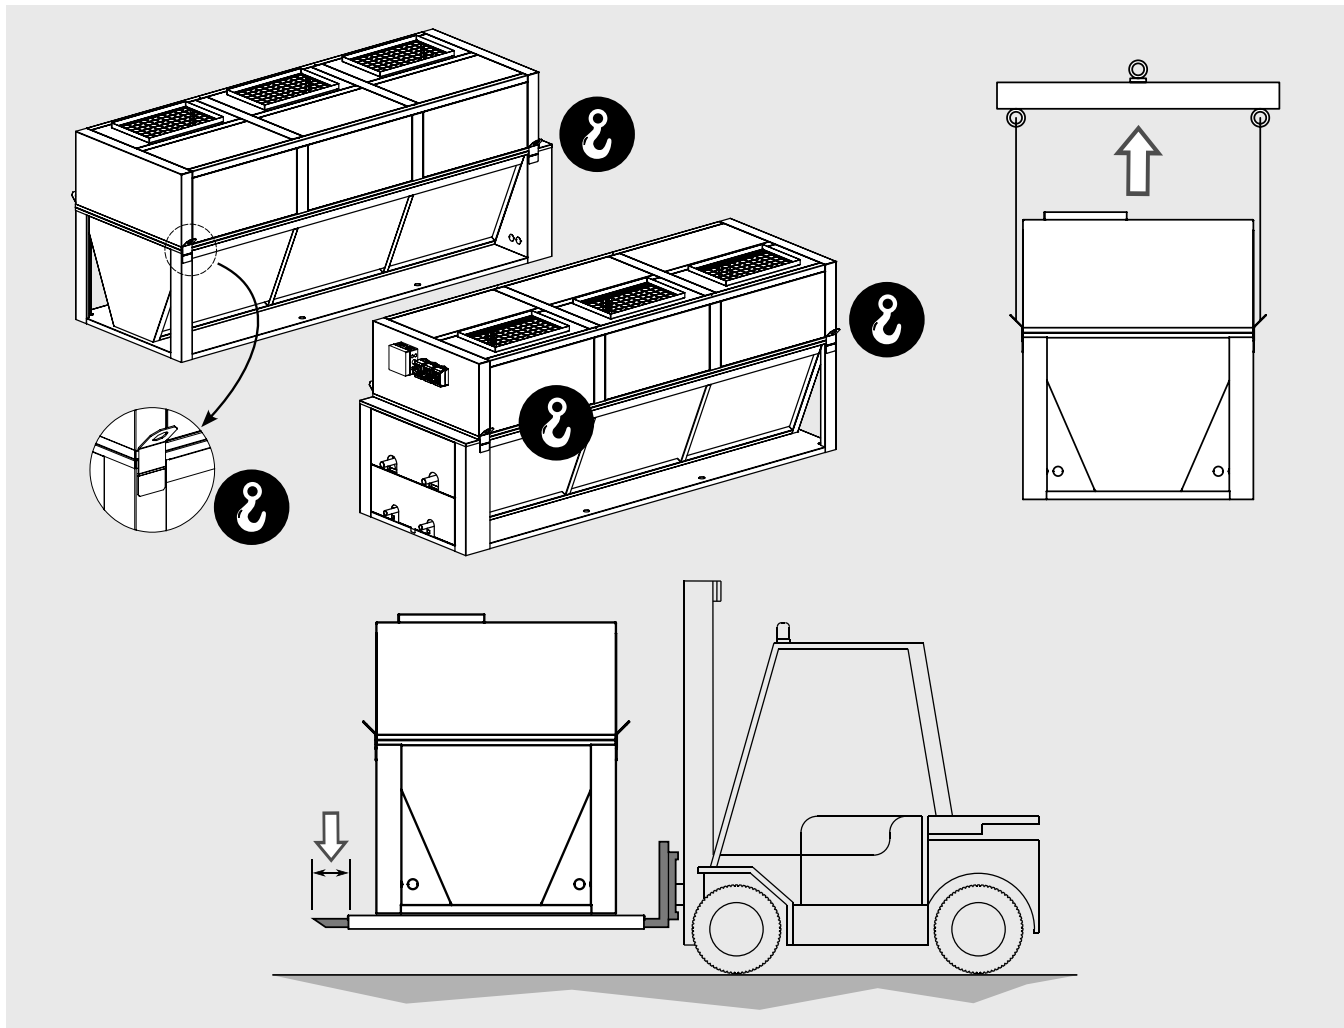

Figure 3
- 5.1 The packed model must be moved by qualified personnel using a forklift truck of adequate capacity, or by crane and/or overhead travelling crane (see Chapter 7). Avoid any sudden movement and do not stand near the manoeuvring area. Always secure models to the lifting gear before handling. A large bump or strong push can cause the model to overturn (see "Figure 3").